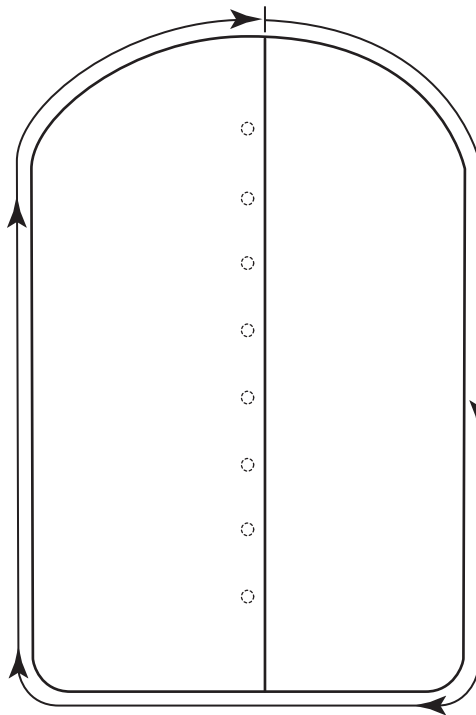

Fig. 21-6
10. Carefully measure the perimeter of the bag front or back. (Fig. 21-6) Trim the side panel strip to this measurement.